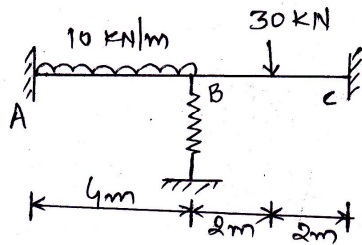

Fig. 1
- Q.1** (a) Obtain the rearranged joint stiffness matrix for the continuous beam shown in Figure 1. Flexural rigidity of all members is constant. **07**
- (b) Determine free joint displacements and support reactions for the continuous beam shown in Figure 1 using stiffness member approach. **07**
- (b) Obtain load vector for the continuous beam shown in Figure 1, considering roller supports at B in place of elastic support, if (i) temperature of AB member is increased so that the top and bottom fibers are at 30 °C and 40 °C **07**